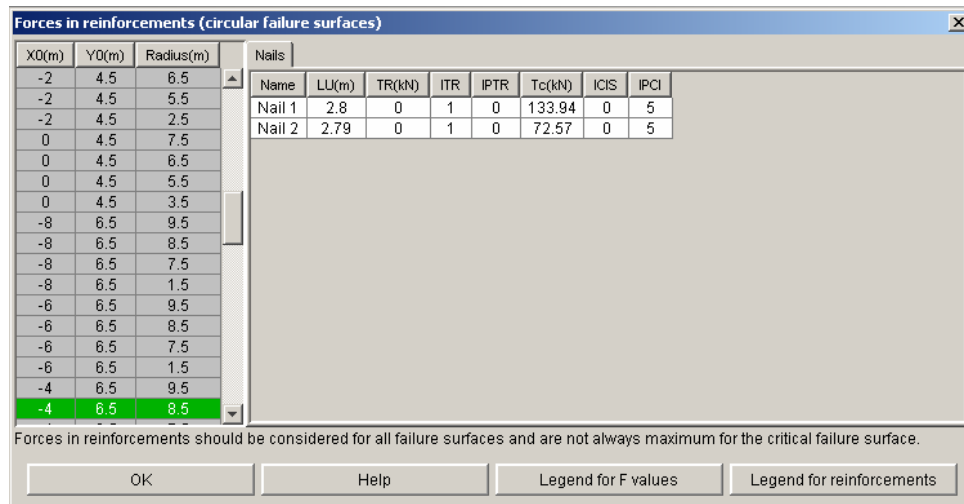

Figure 61: forces in the piles
- The table of detailed results for reinforcements can be displayed with the menu [Calculations and results], option [Forces in reinforcements], or with the toolbar button : Figure 61. The button "Legend for reinforcements" on this screen enables to view the legend for the different columns of the table.